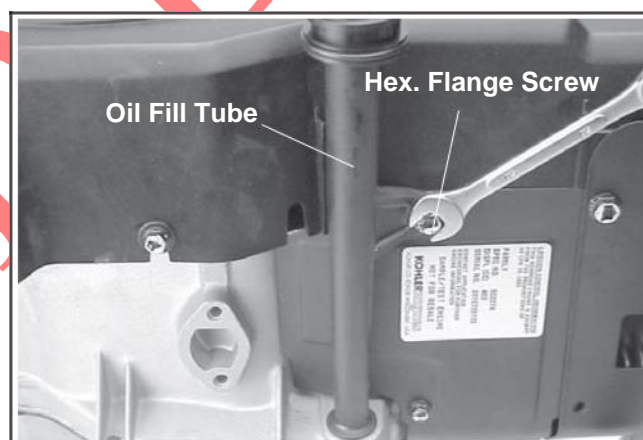

Figure 11-58. Installing Oil Fill Tube.
2. Install the oil fill tube into the hole in the crankcase. See Figure 11-58.